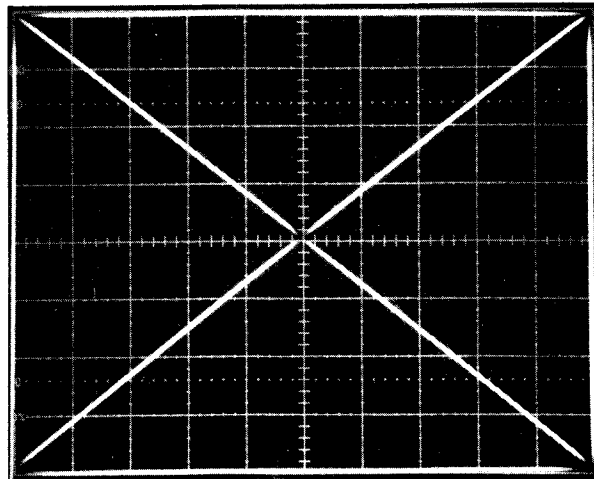

Fig. 2-9. X-Y Display Pattern Test (XYD) waveform from P7001 Checkout Software.
c. CHECK - Diagonal bars of X pattern form straight lines and do not skip sideways where they cross. See Fig. 2-9.
d. ADJUST - Horiz Comp R190 (Fig. G-2) on the P7001 Display Generator Card for the best approximation of an X; the greatest effect is at the center of the X. Figure 2-9 shows proper adjustment. Cancel the XYD Test.